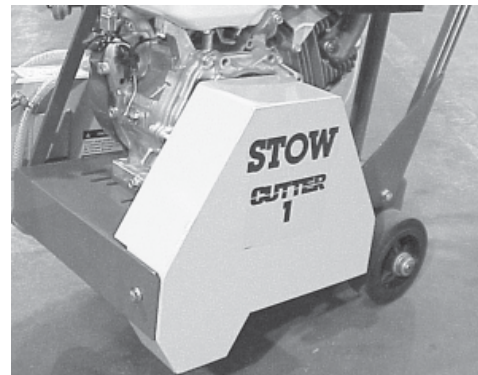

Figure 8. V-Belt Cover
1. Remove the bolts that secure the V-belt cover (Figure 8) to the saw frame.